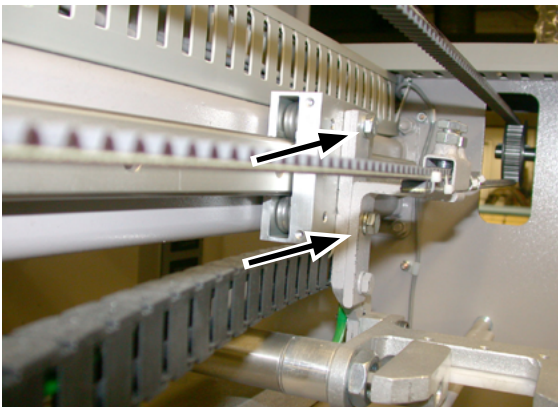

Figure 7-6: After removing these bolts, let the spreader clamp carrier assembly rest on the air foil.
2. Remove the two bolts which secure the spreader clamp carrier assembly to the linear bearing assembly block (Figure 7-6). One bolt is longer than the other. Note its position for correct reassembly at the end of this procedure.